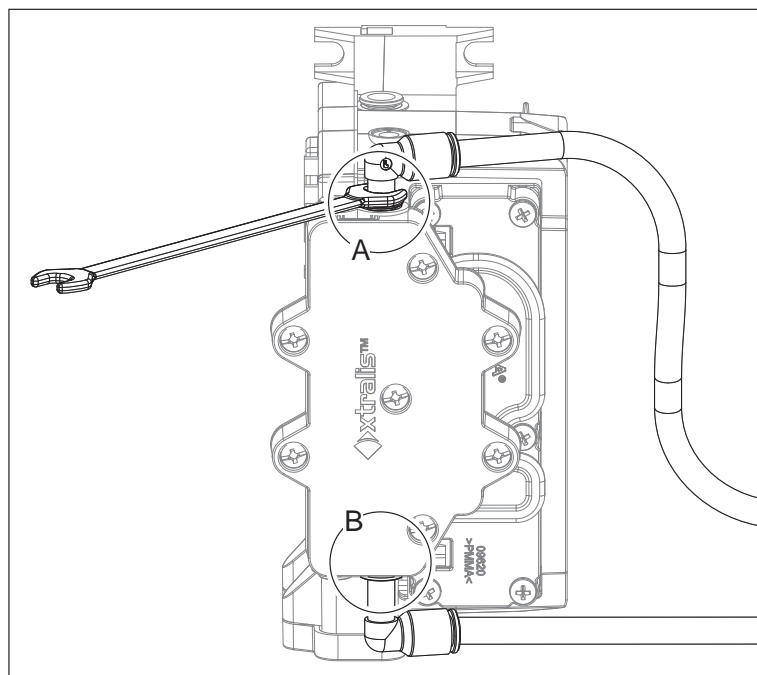

Figure 7-33: Remove Smoke Sensor Module
10. Lift out the Smoke Sensor Module (Figure 7-33). Disconnect the two pipes (A and B) from the module.